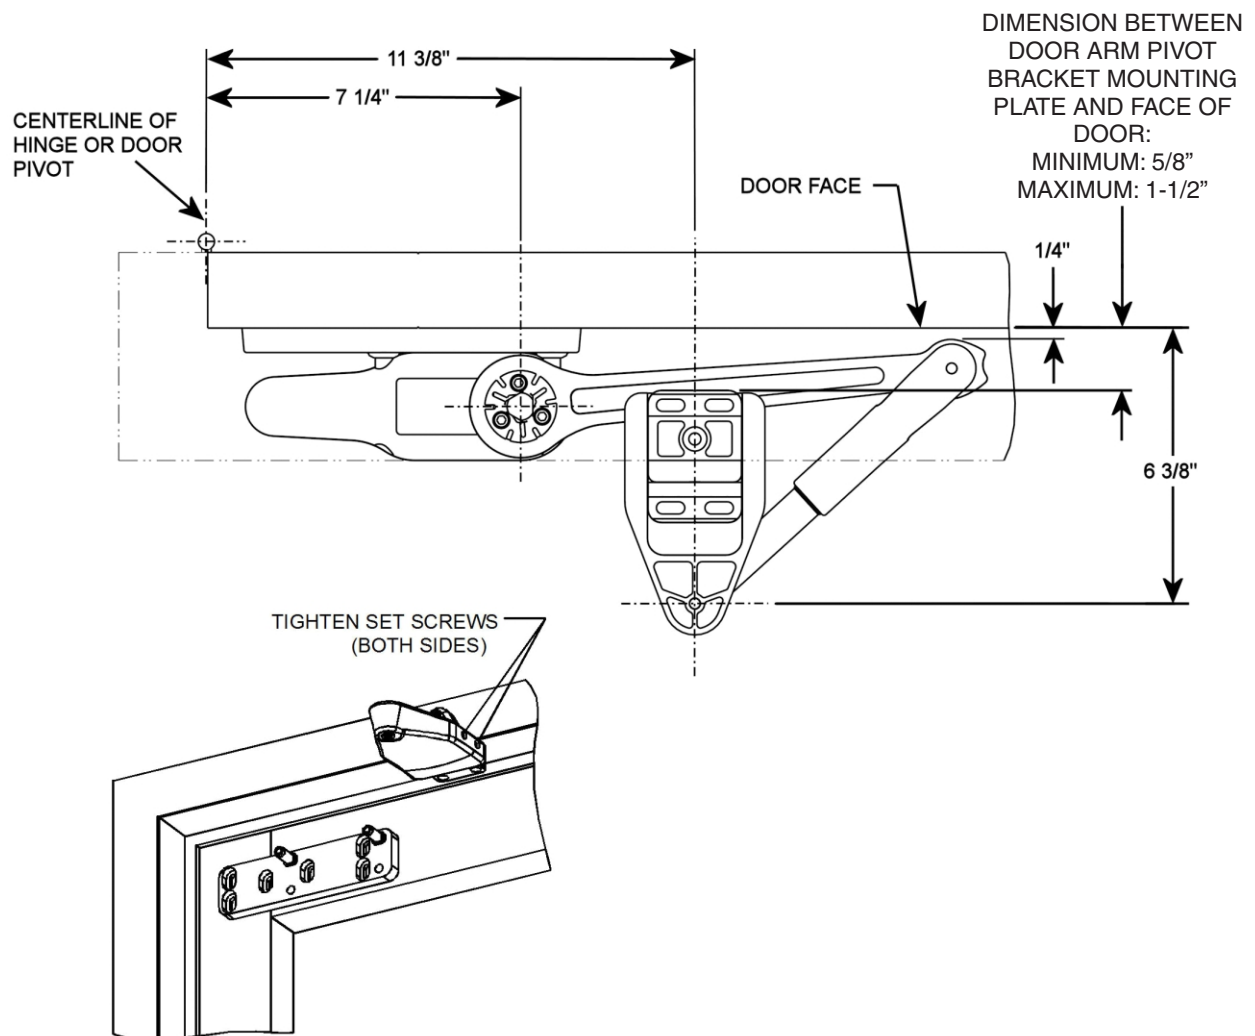

Figure 12
1. Refer to Figure 12, and SLIDE the door arm pivot over the door arm pivot bracket.